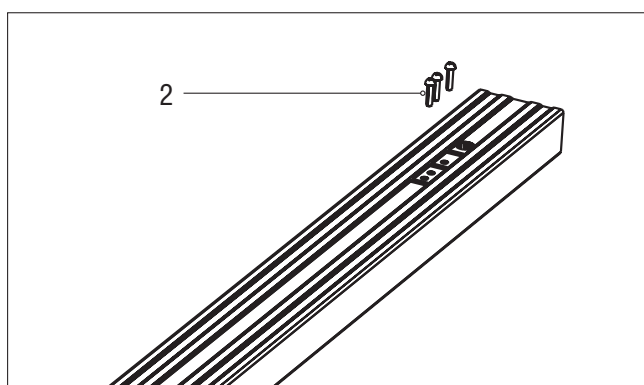

Figure 2
3. Unfasten screws of a sprocket holder, pos. 2 (Fig. 2).